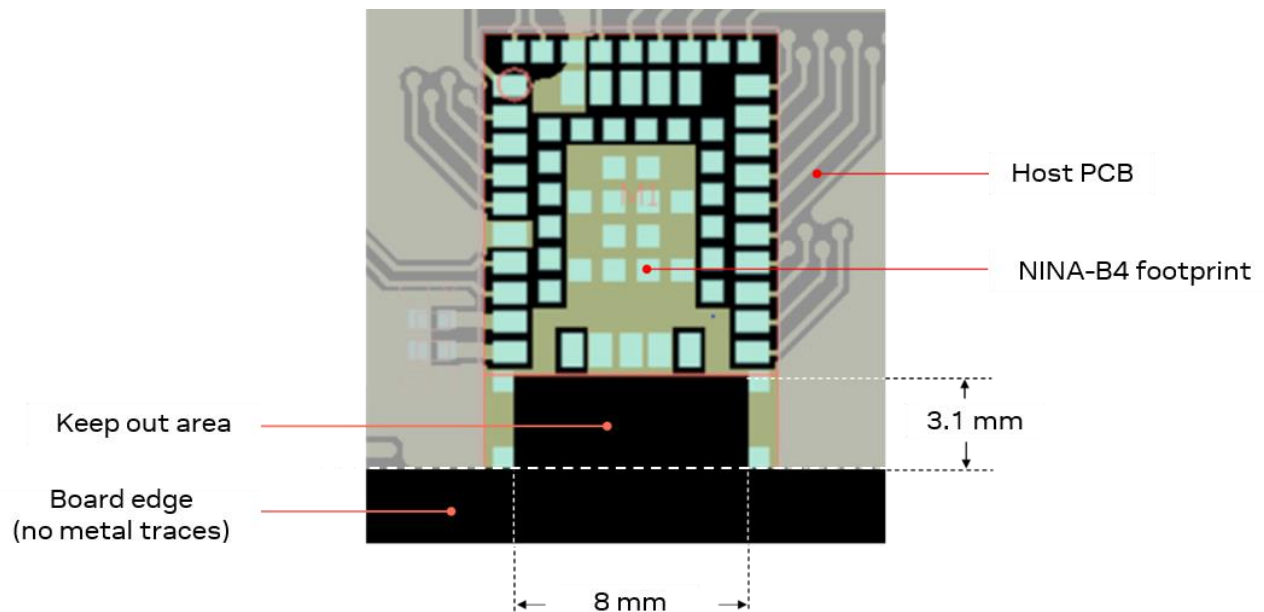

Figure 8: NINA-B4x6 keep out area
- Include a non-disruptive GND plane underneath the module with a cut out underneath the antenna, as shown in Figure 8.
- Observe the antenna “keep-out” area on all layers, as shown in figures Figure 7 and Figure 8.